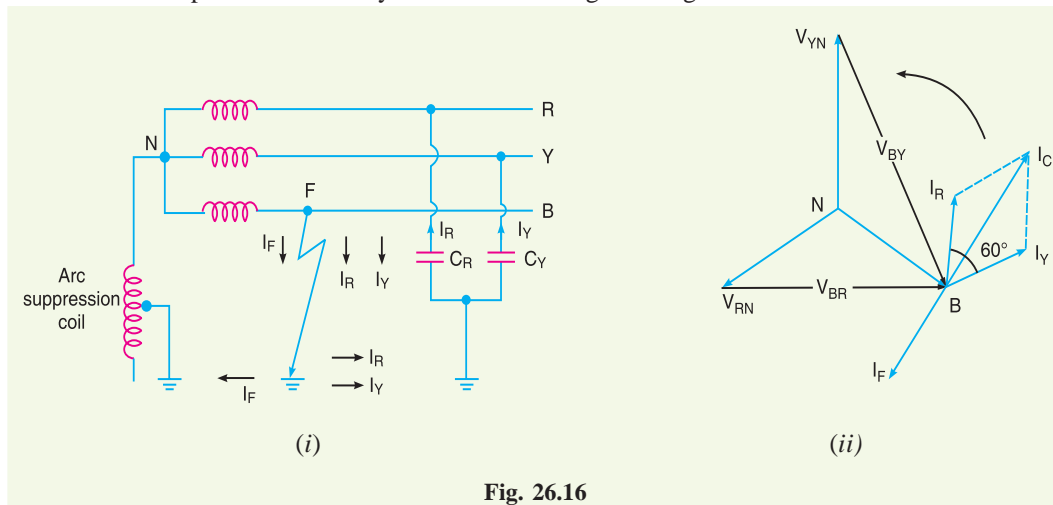

Fig. 26.16
**Circuit details.** An arc suppression coil (also called **Peterson coil**) is an iron-cored coil connected between the neutral and earth as shown in Fig. 26.16(i). The reactor is provided with tapplings to change the inductance of the coil. By adjusting the tapplings on the coil, the coil can be tuned with the capacitance of the system i.e. resonant grounding can be achieved.
**Operation.** Fig. 26.16(i) shows the 3-phase system employing Peterson coil grounding. Suppose line to ground fault occurs in the line  $B$  at point  $F$ . The fault current  $I_F$  and capacitive currents  $I_R$  and  $I_Y$  will flow as shown in Fig. 26.16(i). Note that  $I_F$  flows through the Peterson coil (or Arc suppression coil) to neutral and back through the fault. The total capacitive current  $I_C$  is the phasor sum of  $I_R$  and  $I_Y$  as shown in phasor diagram in Fig. 26.16(ii). The voltage of the faulty phase is applied across the arc suppression coil. Therefore, fault current  $I_F$  lags the faulty phase voltage by  $90^\circ$ . The current  $I_F$  is in phase opposition to capacitive current  $I_C$  [See Fig. 26.16(ii)]. By adjusting the tapings on the Peterson coil, the resultant current in the fault can be reduced. If inductance of the coil is so adjusted that  $I_L = I_C$ , then resultant current in the fault will be zero.